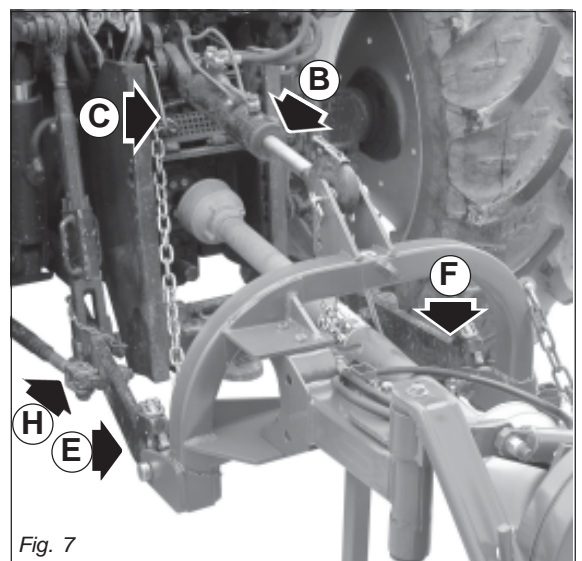
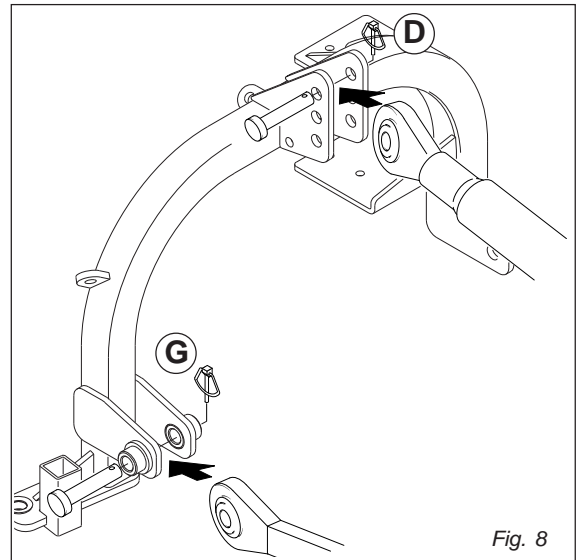

Fig. 7
Fig. 8
2. Connect the upper third-point and correctly regulate by adjusting the top link (B, Fig. 7). Place plate (C, Fig. 7) at the left side of the hitch integral with the same pin. Lock in place with the snap-in split pins (D, Fig. 8).
- Hook the oscillating arms of the tractor to pins (E and F, Fig. 7). Lock in place with the snap-in split pins (G Fig. 8)
- Lock the lift links using the relative chains (H, Fig. 7) and couplings parallel to the tractor. This operation must be carried out to prevent the machine from moving in a horizontal direction.